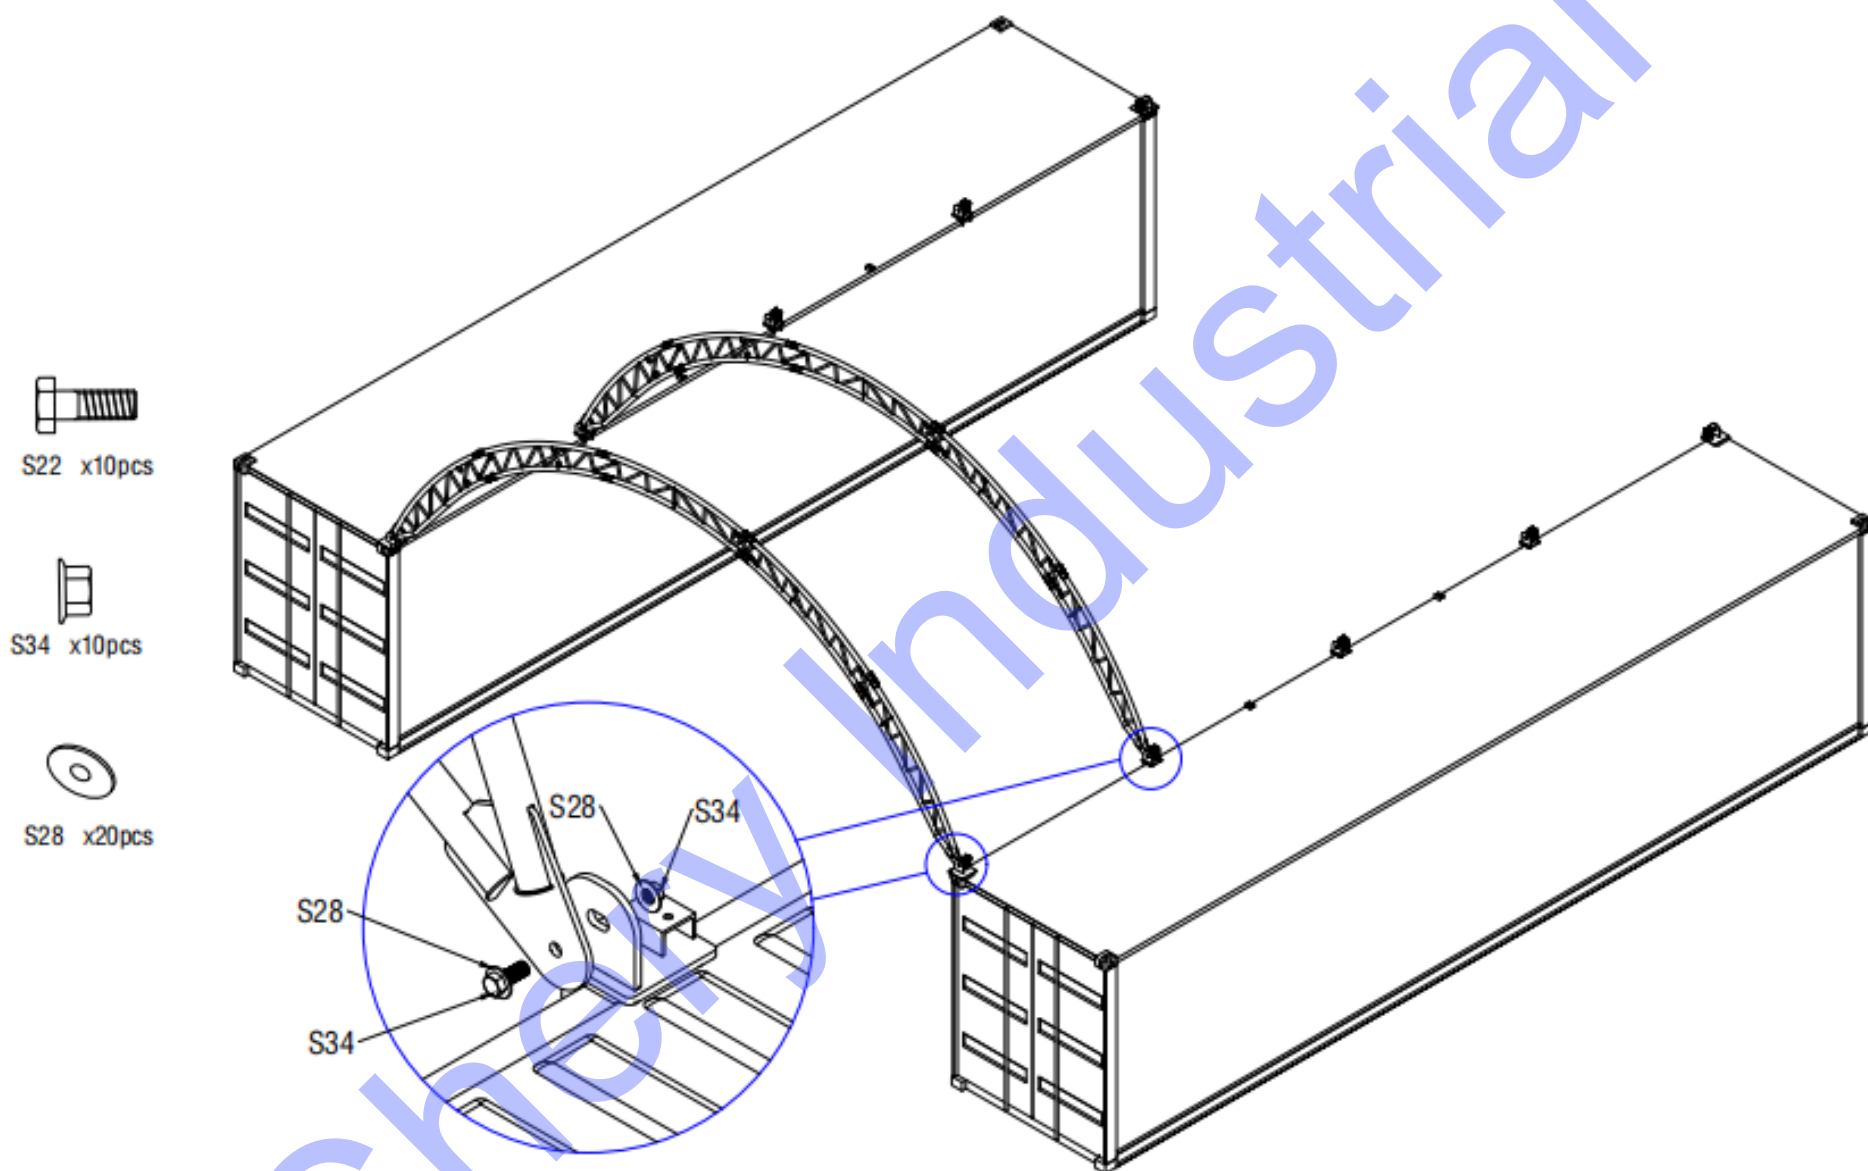

Figure 4
2.3 Lift an assembled arch onto one base plate and connect the arch with the base plate by using Bolt M20x60mm (Part no.S22). and force the other end of the arch onto the opposite base plate by same way as Figure 4 shows.